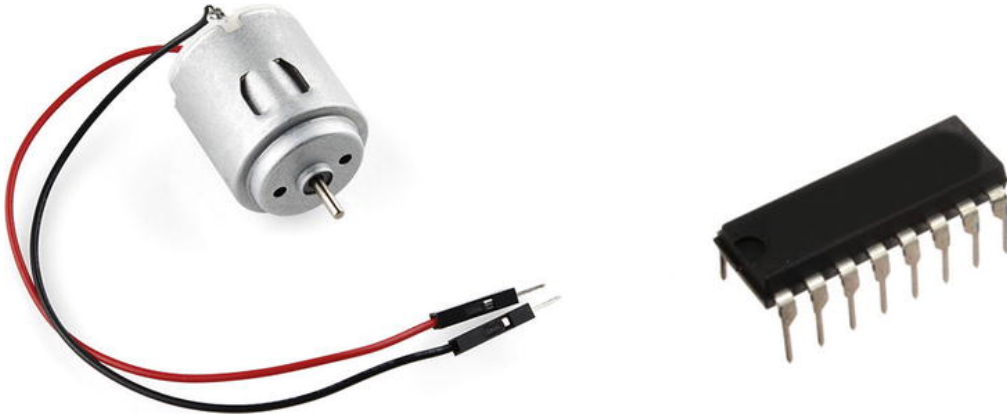

Figure 9-3. RC motor and H-Bridge
An electric motor converts electrical energy into mechanical energy. Most electric motors operate through the interaction of magnetic fields and current conductors to generate the force. The kind of motor in most toys is a DC motor (Figure 9-3). A DC motor is an electric motor that runs on direct current (DC) electricity, usually from batteries.